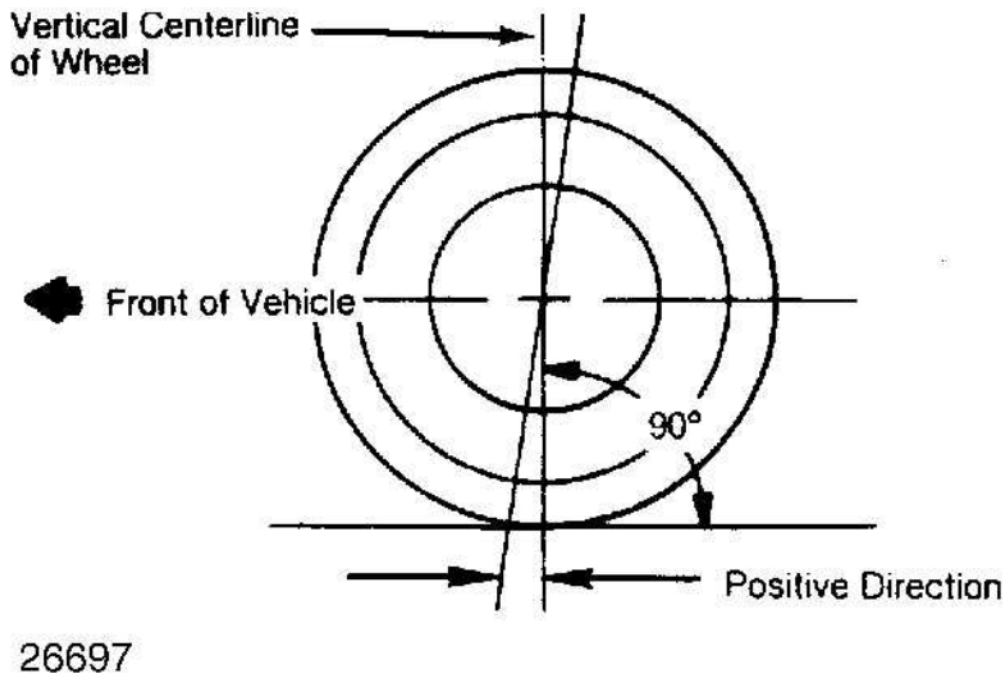

Fig. 4: Determining Caster Angle
1. Caster is tilting of front steering axis either forward or backward from vertical, as viewed from side of vehicle. See **Fig. 4**.